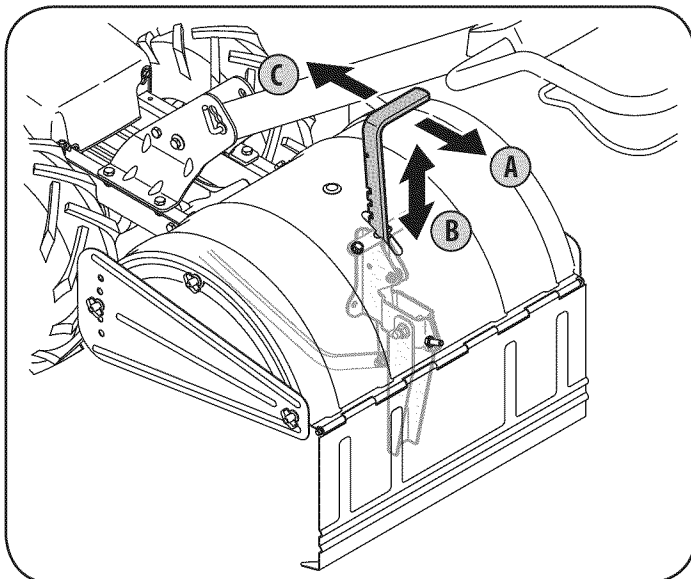

Figure 12
To adjust the depth stake, pull back on the depth adjustment bracket (A) and push up or down (B) until the bracket reaches the desired position, then release the bracket (C). See Figure 12.